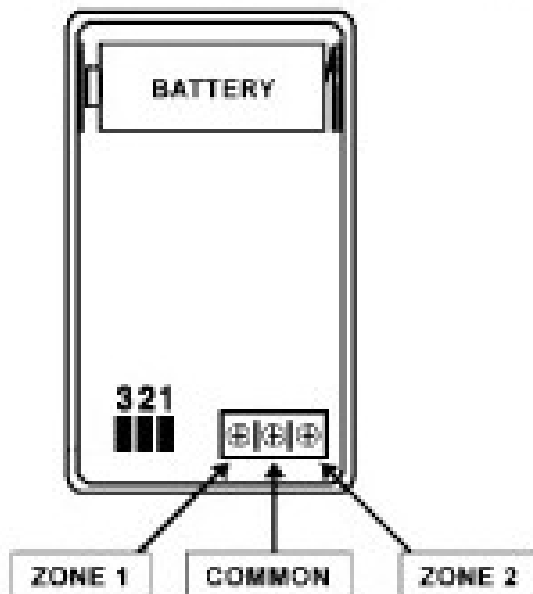

Figure 1
**Step 1)** See figure 1 for wiring zone 2.